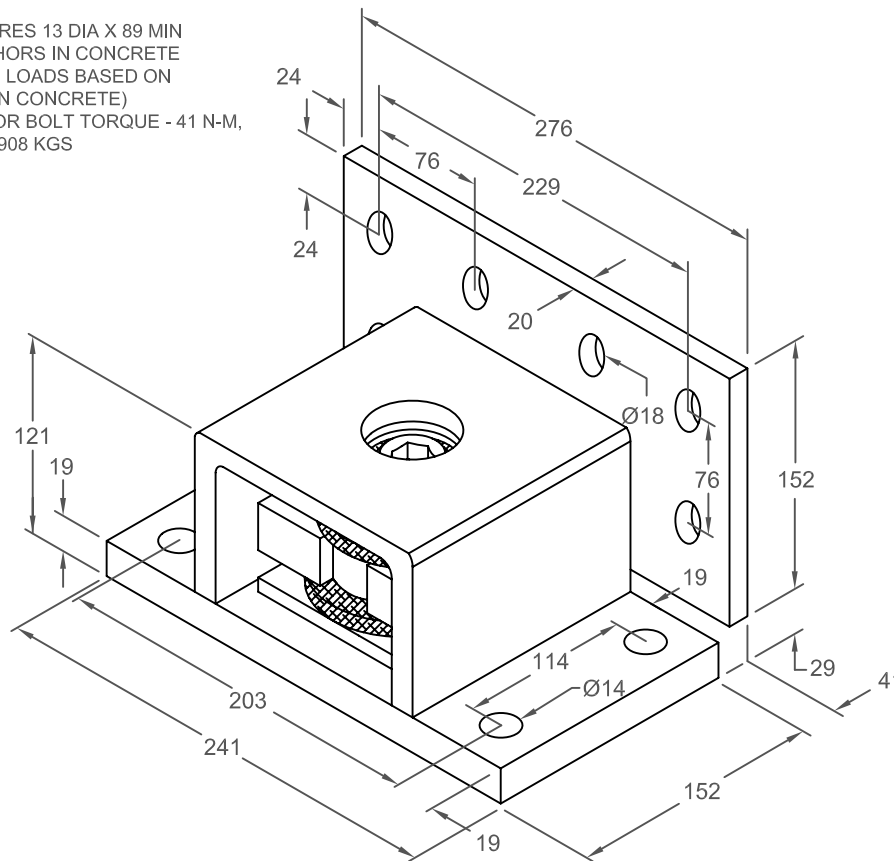

FIGURE 2
- 2) IF THROUGH-BOLTED (STEEL), REFER TO FIGURE 3. IF ANCHORED (CONCRETE), REFER TO FIGURE 2.
- 3) PLOT THE VERTICAL RESTRAINT CAPACITY FROM CURVE #1 (FIGURE 2) OR #4 (FIGURE 3) ON THE VERTICAL AXIS OF FIGURE 1.
- 4) PLOT THE HORIZONTAL RESTRAINT CAPACITY FROM CURVE #3 (FIGURE 2) OR #6 (FIGURE 3) ON THE HORIZONTAL AXIS OF FIGURE 1.
- 5) PLOT THE COMBINED RESTRAINT CAPACITY FROM CURVE #2 (FIGURE 2) OR #5 (FIGURE 3) AT THE POINT ON FIGURE 1 WHERE THE VERTICAL AND HORIZONTAL FORCES BOTH MATCH THIS VALUE.